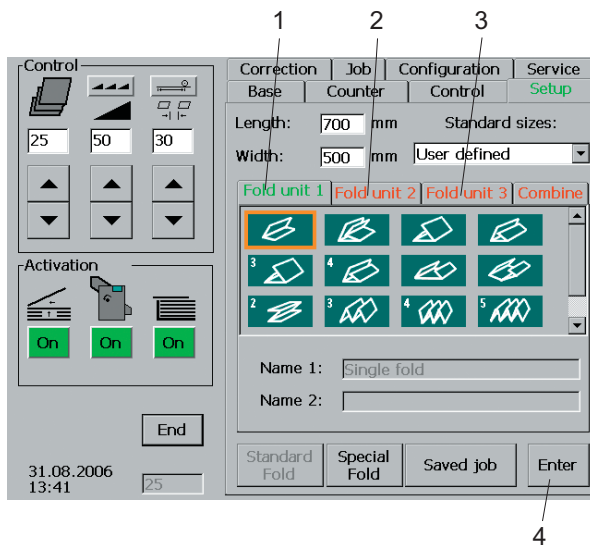

Fig. 20 Standard fold
1. Touch the *Fold unit 1* tab (Fig.20/1) (script colour changes)
If there are additional fold units, *Fold unit 2* (Fig. 20/2) resp. *Fold unit 3* (Fig. 20/3) are set in the same way.
3. Touch the *Enter* key (Fig. 20/4). This command activates the automatic setting.